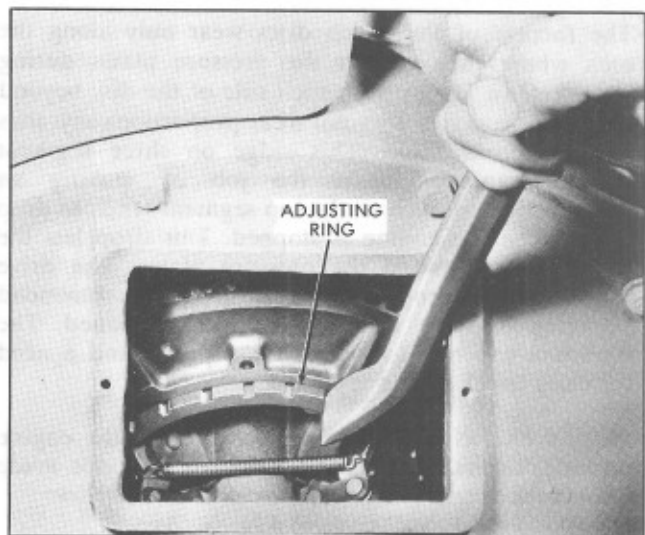
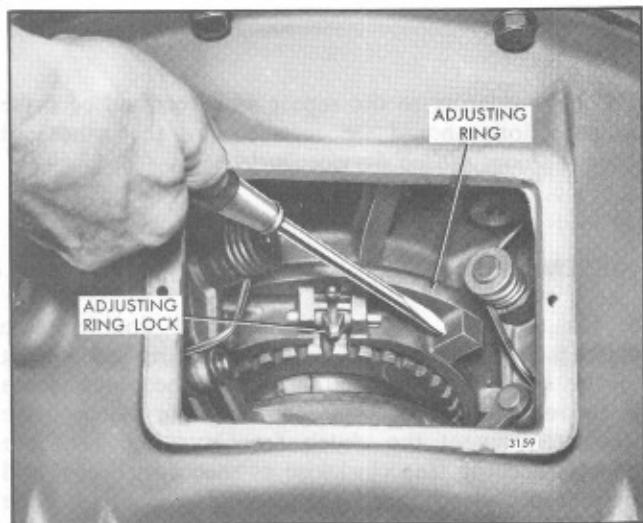
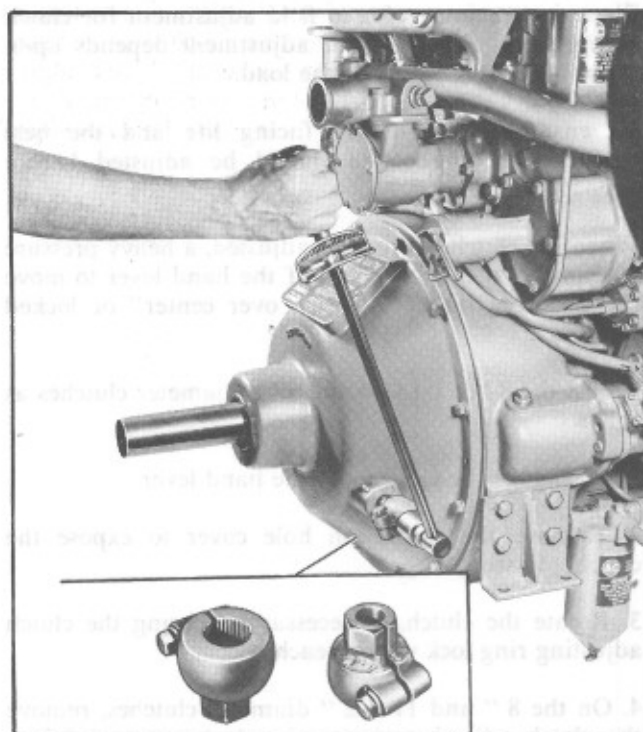

Fig. 5 - Power Take-Off Showing Typical 8" and 11-1/2" Diameter Clutch Adjustment Ring
Fig. 6 - Power Take-Off Assembly Showing 14" Diameter Clutch Adjustment Ring
Fig. 7 - Power Take-Off Clutch Adjustment Check with Torque Wrench and Adaptor
4. On the 8" and 11-1/2" diameter clutches, remove the clutch adjusting ring spring lock screw and lock from the inner clutch pressure plate and adjusting ring. Then, while holding the clutch drive shaft to prevent the clutch from turning, turn the clutch adjusting ring counterclockwise as shown in Fig. 5 and tighten the clutch until the desired pressure on the outer end of the hand lever, or at the clutch release shaft (Fig. 7) is obtained, as shown in the table.
5. On the 14" diameter single and double plate clutches, raise the end of the adjusting ring lock up out of the splined groove in the hub of the outer clutch pressure plate. Then, while holding the clutch drive shaft to prevent the clutch from turning, turn the clutch adjusting ring clockwise as shown in Fig. 6 and tighten the clutch until the desired pressure on the outer end of the hand lever, or at the clutch release shaft (Fig. 7), is obtained as shown in the table.
However, a more accurate method of checking the clutch adjustment is with a torque wrench as shown in Fig. 7.
To fabricate an adaptor, saw the serrated end off of a clutch hand lever and weld a 1-1/8" nut (across the hex) on it as shown in Fig. 7. Then saw a slot through the nut.